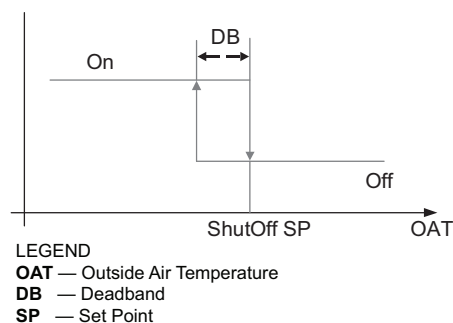

Fig. 77 — Hysteresis Settings
Hysteresis setting (DB) defaults to 2°F (−16.6°C). See Fig. 77.